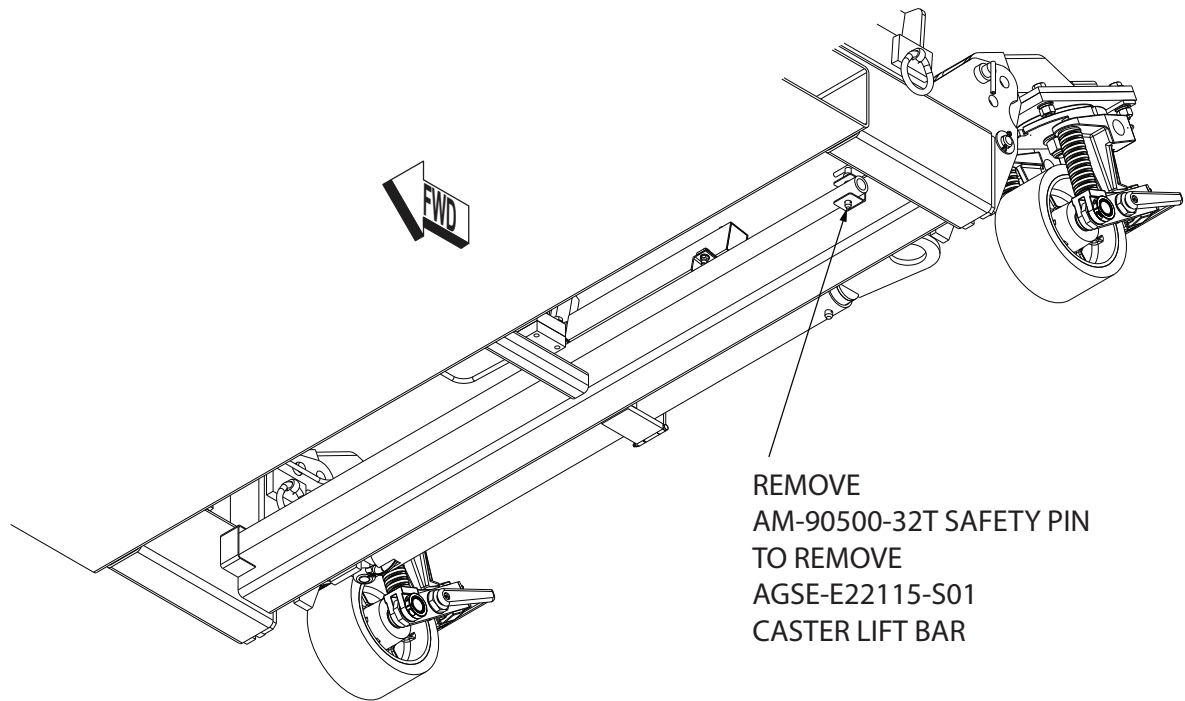

Figure 5.1-1 Caster Lift Bar Removal
- 3) Remove the AGSE-E22115-S01 caster lift bar from its storage at the bottom of the base AFT end by removing the AM-90500-32T safety pin. (Illustration Figure 5.1-1).